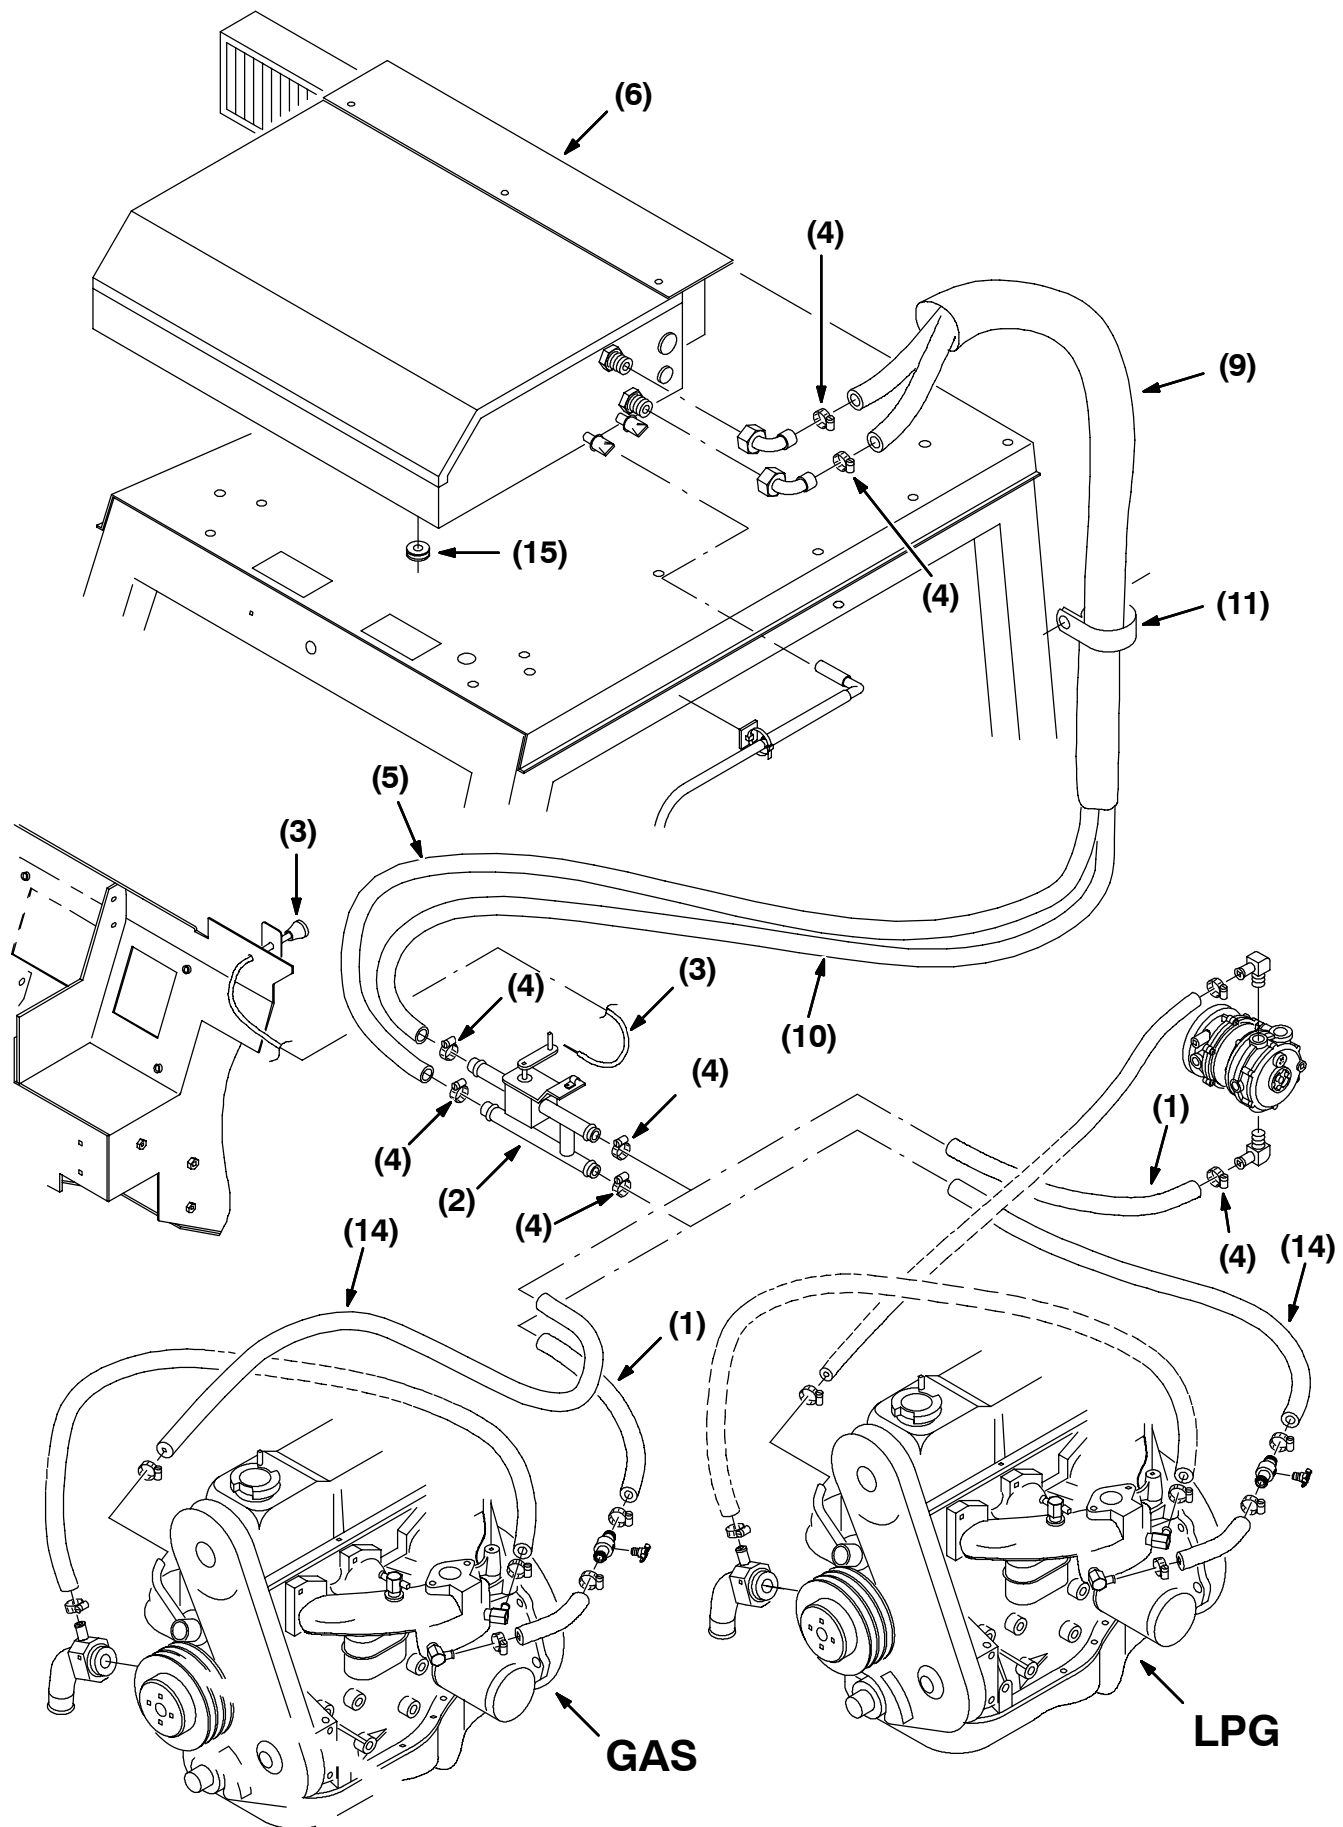
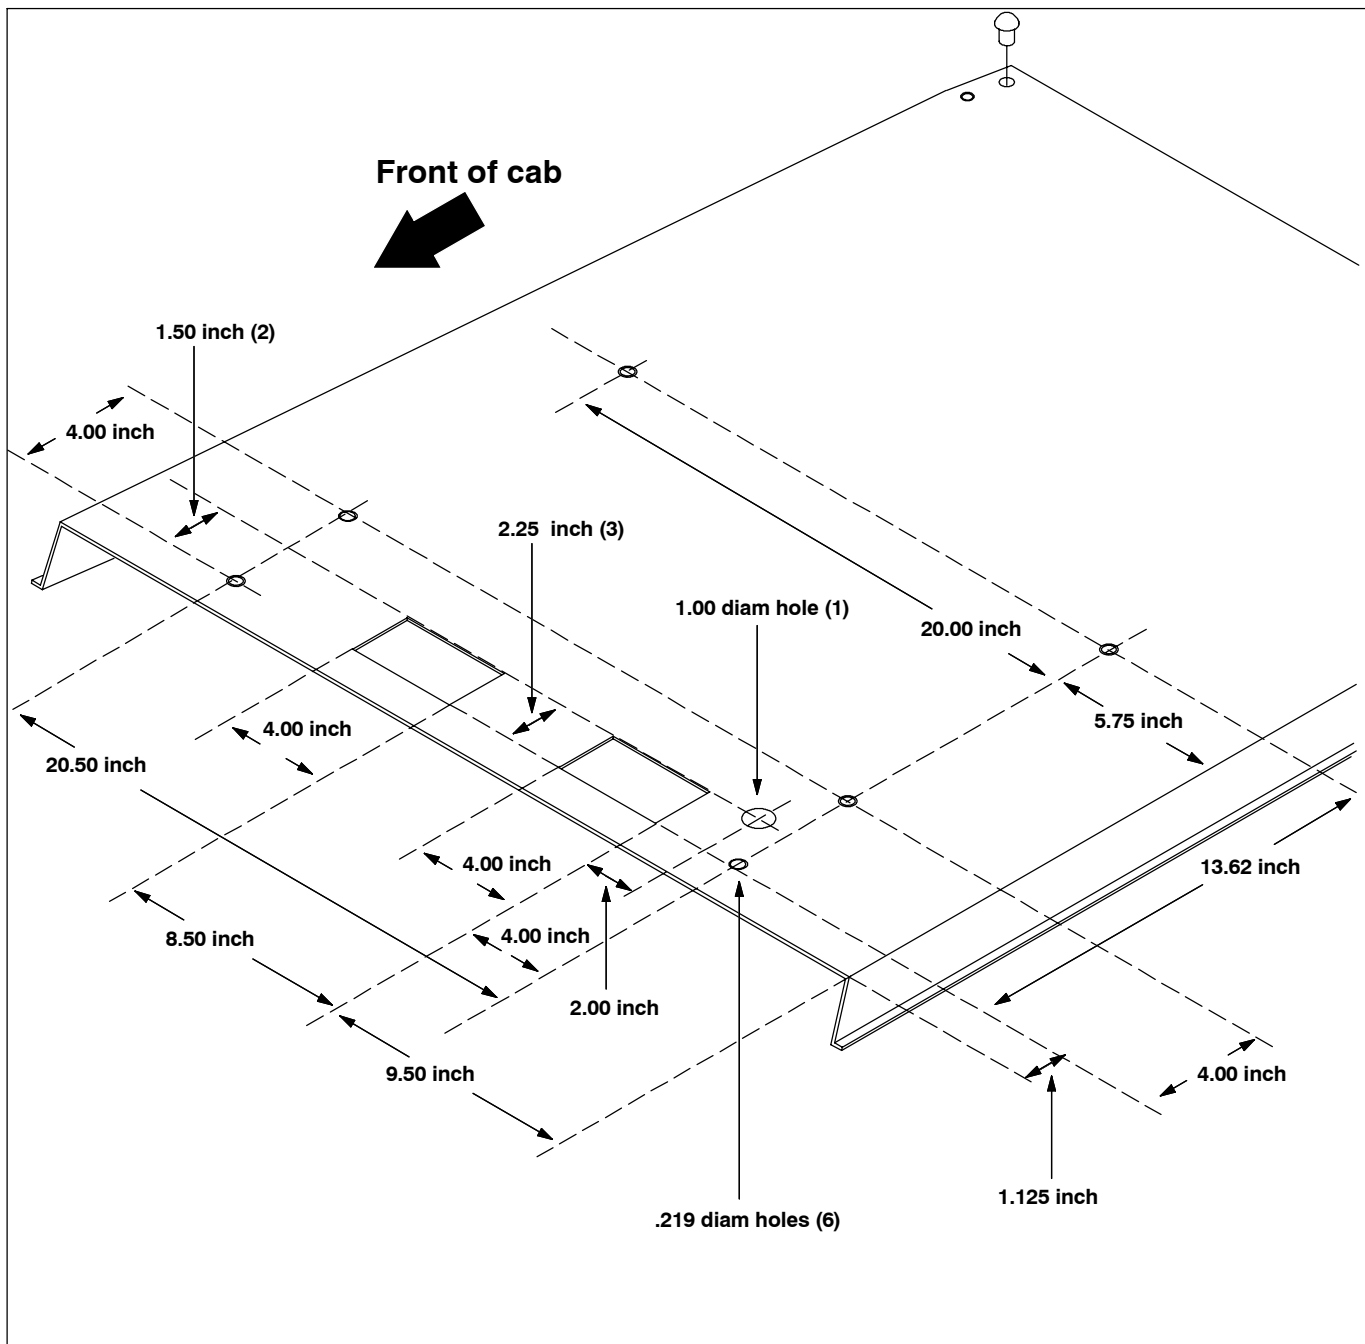

FIG. 1 - Heater Hose Connections And Heater/pressurizer Installation
FIG. 4 - Rework Dimensions For Cab Roof (earlier version of cab)
(Refer to FIG. 1 thru 8)
3. Use the illustrations in FIG. 1 to install the hoses (1 and 14). (Refer to FIG. 1)
NOTE: Use the illustration that corresponds to your machine (Gas or LPG). (Refer to FIG. 1)
4. Install the manual heater valve (2) into the two new hoses (1 and 14). Use two of the worm drive clamps (4). (Refer to FIG. 1)
5. Install the two longer heater hoses (5 and 10) onto the manual heater valve (2). Use two of the worm drive clamps (4). (Refer to FIG. 1)
6. Install the nylon sleeve (9) onto the two longer hoses (5 and 10). (Refer to FIG. 1)
7. Route the two longer hoses (5 and 10) out the back of the engine compartment and up the back, left side of the machine cab. (Refer to FIG. 1)
8. Install the hose clamp (11) over the two long hoses (5 and 10) and sleeve (9). Attach the clamp to the back of the cab. (Refer to FIG. 1)
9. Install the cable assembly (3) into the hole on the left side of the panel in the operator compartment. (a hole may need to be drilled on very early models) Route the cable into the engine compartment and connect it to the manual heater valve (2). (Refer to FIG. 1)
10. **LATER VERSION CAB:** If your machine has a later version cab, *with* the heater/pressurizer mount holes already in the roof panel, **no rework is necessary**. Remove the four hex screws holding the mount hole cover panel to the top of the roof. Discard the cover panel. (Refer to FIG. 1 and 3)
11. **EARLIER VERSION CAB:** If your machine has a earlier version cab, *without* the heater/pressurizer mount holes already in the roof panel, **rework is necessary**. Use the dimensions in FIG. 4 to mark, drill, and cut the pressurizer mount holes in the top of the cab roof. (Refer to FIG. 1 and 4)
12. Install the grommet (15) in the larger hole to the left of the rectangle cutouts. (Refer to FIG. 1, 3, and 4)
13. Position the heater/pressurizer assembly (6) on the roof of the cab. Make sure gasket is in place between unit and cab. Center the unit over the mount holes and install the six screws (7) and washers (8). Hand tighten tight. (Refer to FIG. 1)
14. Connect the two longer hoses (5 and 10) to the two fittings on the left side of the heater/pressurizer assembly. Use the diagram in FIG. 1 to make the correct connections. Make sure to use two worm drive clamps (4) when attaching the hoses (5 and 10) to the fittings. (Refer to FIG. 1)